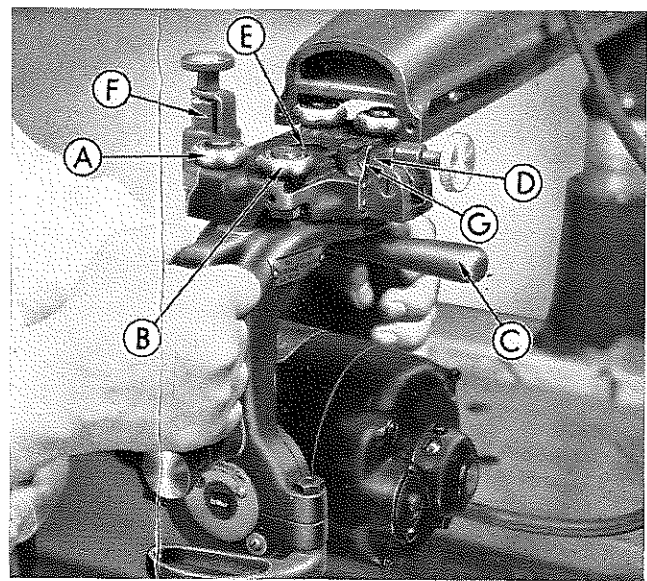

FIGURE 2
To install the saw carriage in the arm, remove the arm end plate and front stop bolt from the end of the arm. The machined ways inside the arm (Figure 2) should be thoroughly cleaned and grease and oil removed from them. THE WAYS SHOULD BE KEPT IN THAT CONDITION DURING THE ENTIRE LIFE OF THE MACHINE. GREASE AND OIL SHOULD NOT BE USED ON THE WAYS. CARBON TETRACHLORIDE IS THE BEST CLEANSER TO USE INSIDE THE WAYS.
After the ways have been wiped, hold the yoke handle of the saw carriage (Figure 2) with your right hand and support the carriage with your left hand. Insert the roller head assembly into the arm. Tilt the rip lock (D) until it does not interfere with the insertion of the roller head assembly. Replace the arm end plate and the stop bolt.